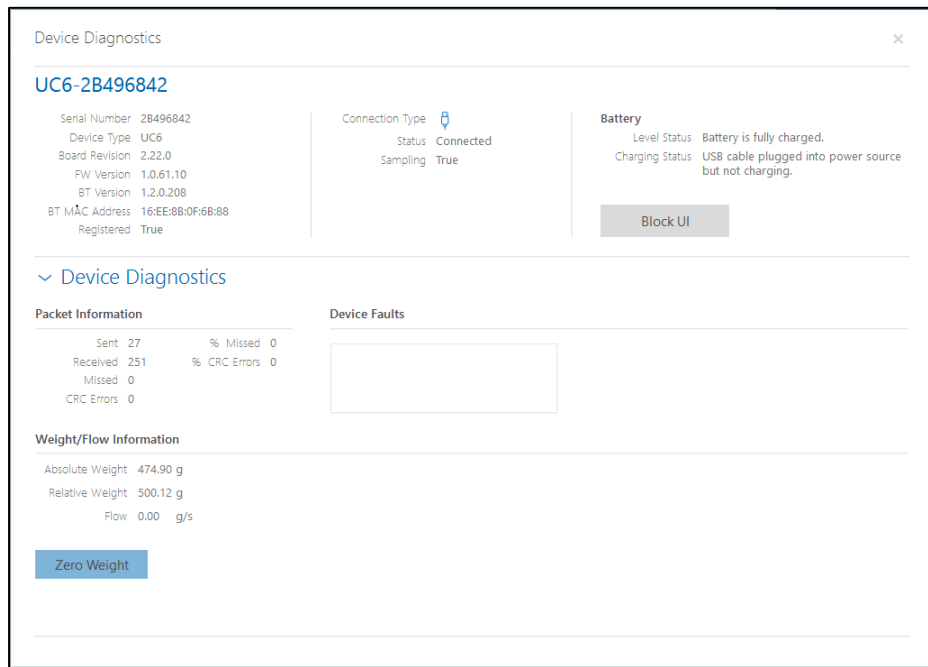

Figure 67: Urocap NXT – Device Diagnostics with Water
- c) Verify that the **Relative Weight** for the Urocap NXT in the diagnostic window is 500.00 g +/-3% as exemplified in Figure 67.